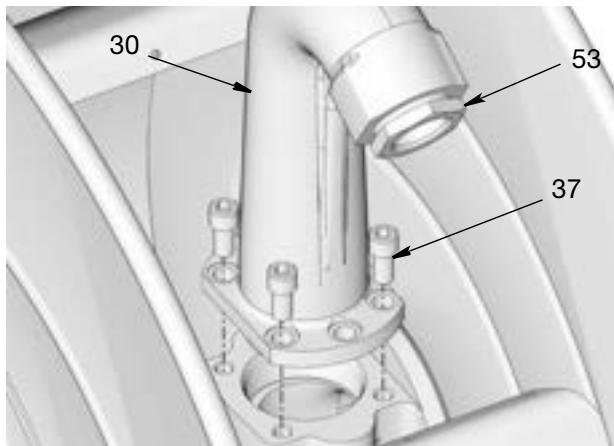

FIG. 6: Low Pressure Outlet shown. Medium Pressure models use 6 bolts.
- For an easier hose installation, remove the outlet (30) from the spool. Remove the bolts (37) holding the outlet to the spool (FIG. 6).
- Apply pipe thread sealant, or wrap PTFE tape, around the threads of the reducer (53) (if needed). Then install the reducer (53) in the end of the outlet (FIG. 6). Use two wrenches on the flats, working in opposite directions, to securely tighten the reducer to the outlet fitting.